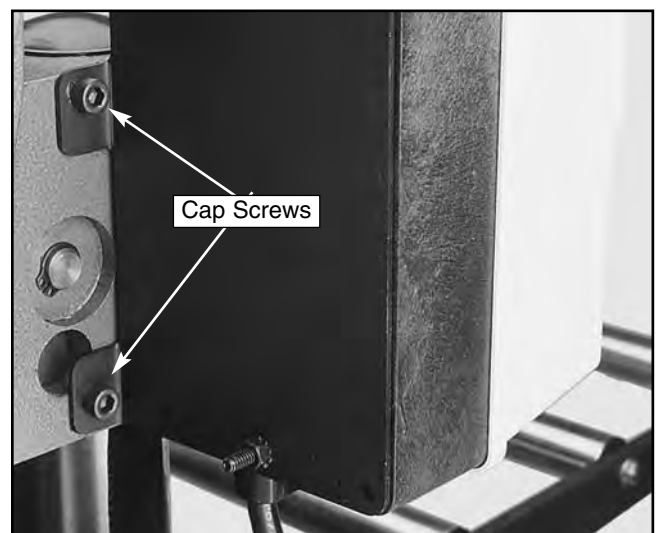

Figure 5. Starter switch attachment.
1. Unscrew the cap screws from the planer body for mounting the switch. See **Figure 5**.